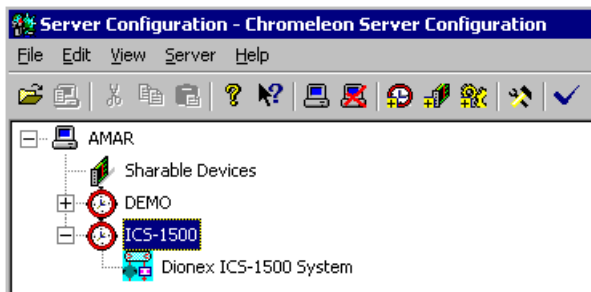

Figure 13. Server Configuration with ICS-1500 Timebase
1. In the Server Configuration program, click the + icon next to the server name to expand the folder. The timebase you created is displayed (see Figure 13).